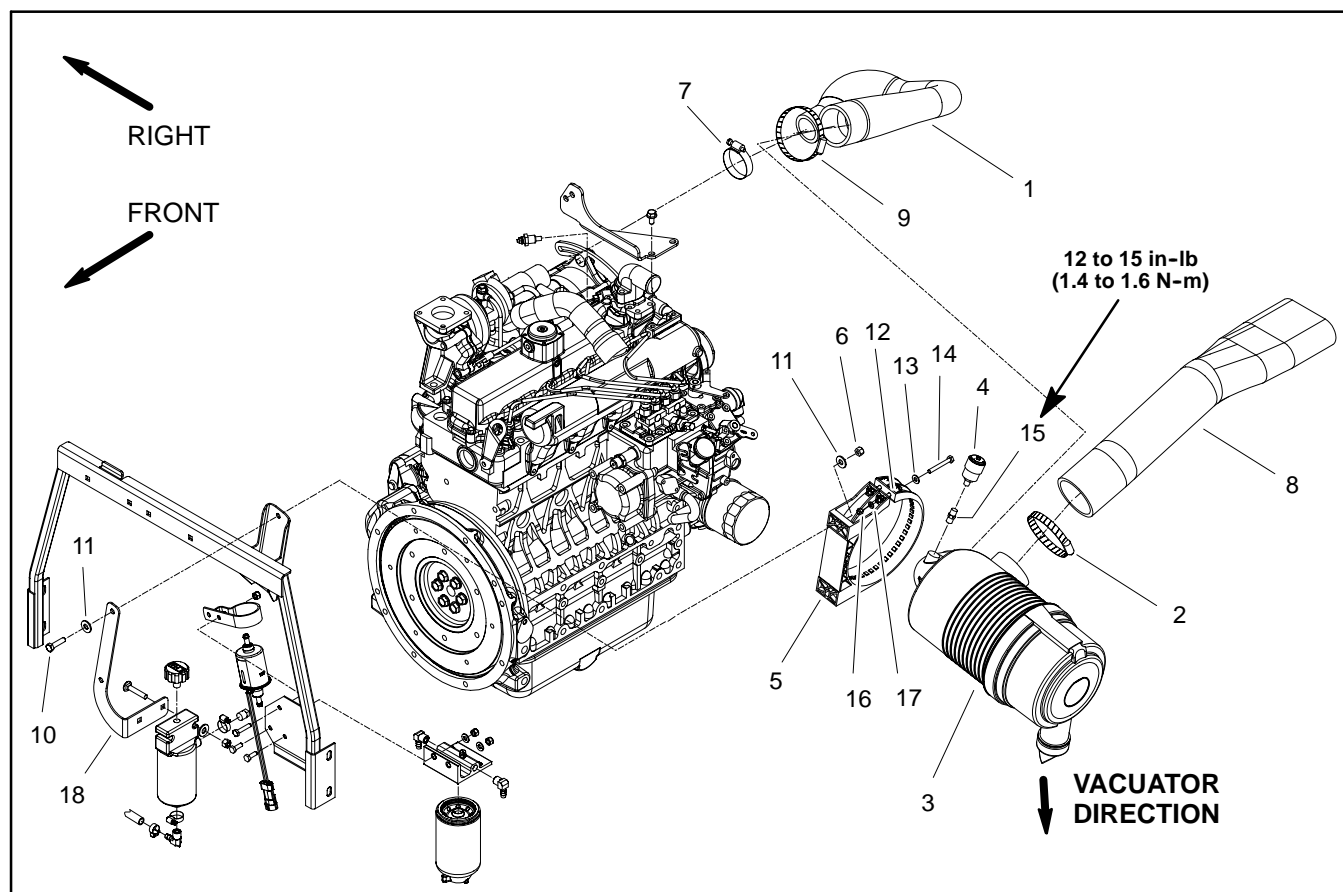

Figure 1
Removal (Fig. 1)
3. Remove air cleaner components as needed using Figure 1 as a guide.
Installation (Fig. 1)
1. Assemble air cleaner system using Figure 1 as a guide.